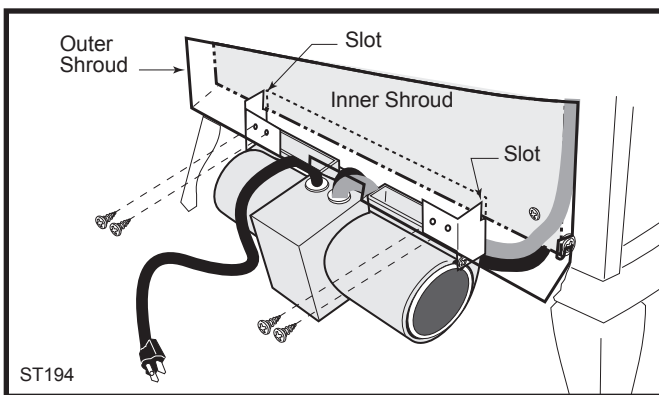

Fig. 18 Position the fan to engage the inner shroud with the fan bracket slots and secure with sheet metal screws.
7. Position the fan assembly so the ducts slide between the inner and outer shroud. The inner shroud should engage with the two slots in the ends of the bracket so that bracket and shroud are interlocked. (Fig. 18) Secure the bracket with the four sheet metal screws provided in the finish bag.